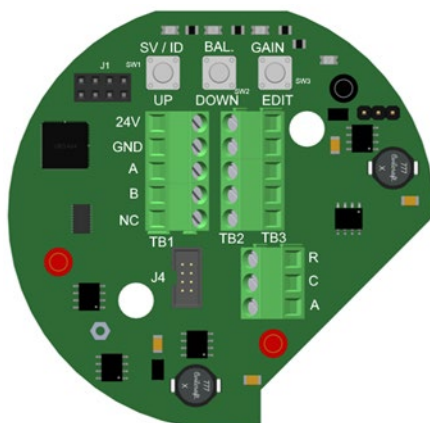

Figure 16-1 – Remote Sensor Option Board
**NOTE:** Using the Remote Sensor Option Board requires the TXP-T40 transmitter to have a Relay/RS-485 Option Board (Figure 16-1) installed. The Remote Sensor Option Board communicates to TXP-T40 transmitter through one of the two RS-485 Comm Ports on the Relay/RS-485 Option Board.